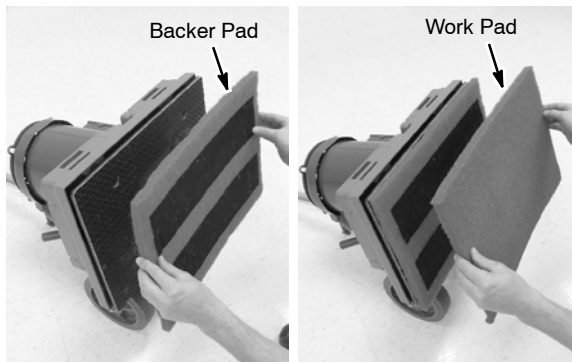

FIG. 2
2. Install the backer pad onto the scrub head with retaining strips facing outwards. Then install work pad onto backer pad (Figure 2).